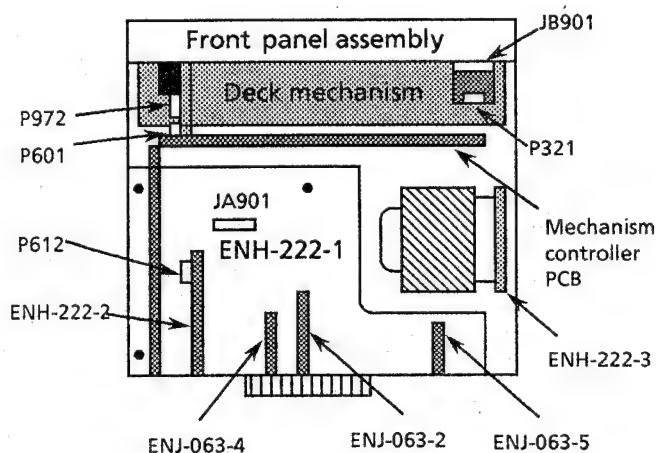
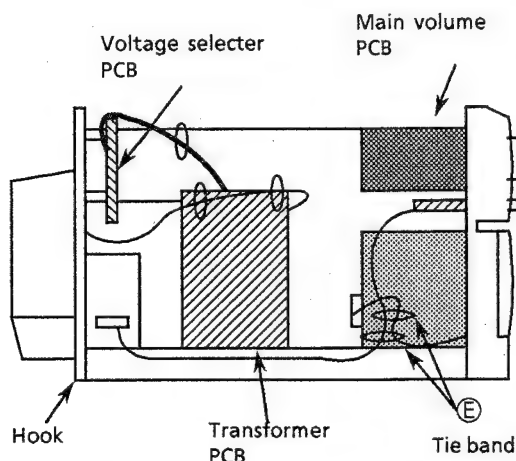

Fig. 2 Top view
Fig. 3 Left side view
2. Cut the tie bands ⑥ and ⑦ (Fig. 3,4).
3. Remove the screw ①.
5. Disconnect the connectors P331, P332, P333, P334 (Cassette deck CB), P321 (Head phone CB), P612 (Input selector CB) and the flat wire JB901 (System control CB) and P972 (Main volume CB) (Fig. 2, 3,4).
4. Release the both hooks to remove the rear panel (Fig. 3,4).